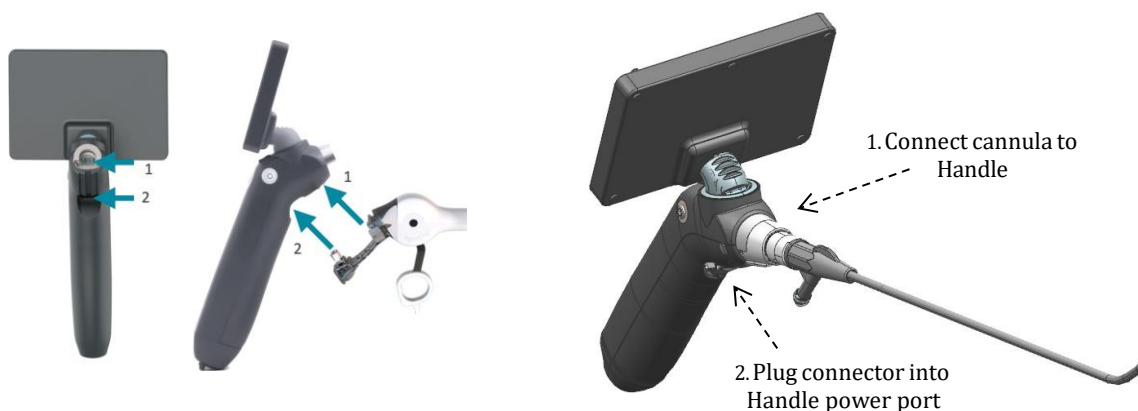

Figure 4. Attach Cannula to Handle
- 6.1.3. Connect the cannula to the UroViu Handle and press it fully into place until a subtle “click” of the connector detent mechanism is felt. (Figure 4, left image)
- 6.1.4. Once cannula is connected, insert the male USB connector of the disposable cannula into the USB female connector on the handle. (Figure 4, right image)